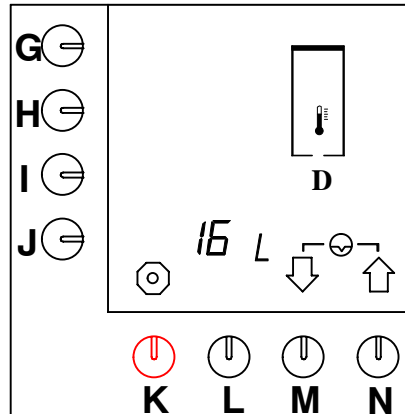

Fig. 17 Day counter hot water system
- Fig. 17 appears on the display.